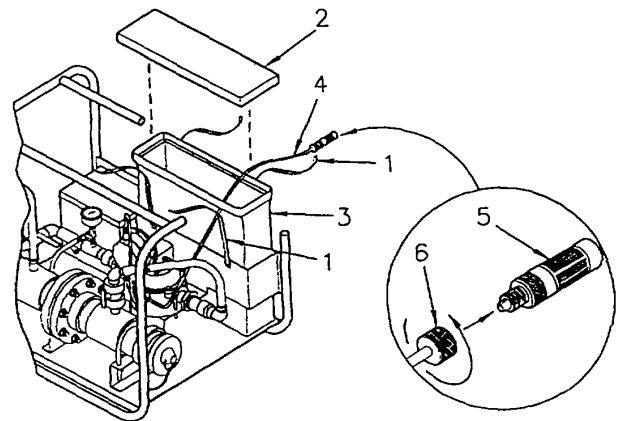

Figure 3-1. Suction Tubing and Foot Valve
- (1) Loosen velcro strap (1, Figure 3-1). Remove lid (2) from reservoir (3).
- (2) Lift suction tubing (4) with foot valve (5) from reservoir (3) and allow to drain.
- (3) Remove foot valve (5) from suction tubing (4) by removing tube nut (6) from foot valve (5), pull suction tubing (4) off of foot valve (5).
- (1) Install suction tubing (4) onto foot valve (5, Figure 3-1).
- (2) Install tube nut (6) on foot valve (5).
- (3) Position foot valve (5) in reservoir (3) 1 inch from bottom.
- (4) Install lid (2) on reservoir (3) and secure with velcro straps (1).